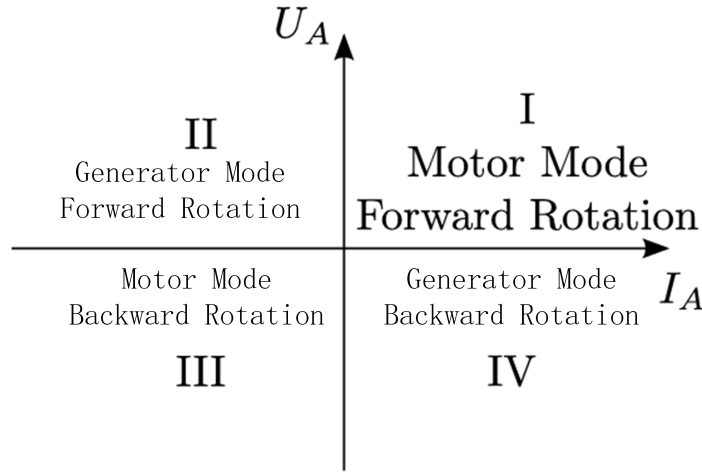

Figure 1.2: Four working modes of the DC machine
2.) * The four working moed of the DC machine are shown in Figure 1.2.